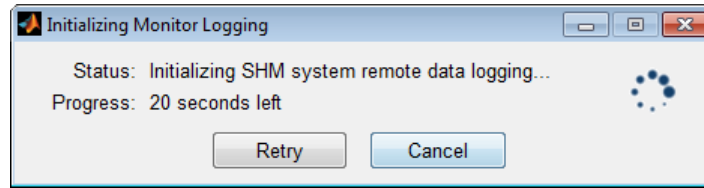

Figure 5.2: 'Initializing Monitor Logging' dialog box.
- ✓ **Step 5.5** Click the 'OK' button to initiate remote logging. The 'Initializing Monitor Logging' dialog box will appear, as shown in Figure 5.2, displaying the status of initiating the remote data logging and the amount of time remaining to receive a confirmation.